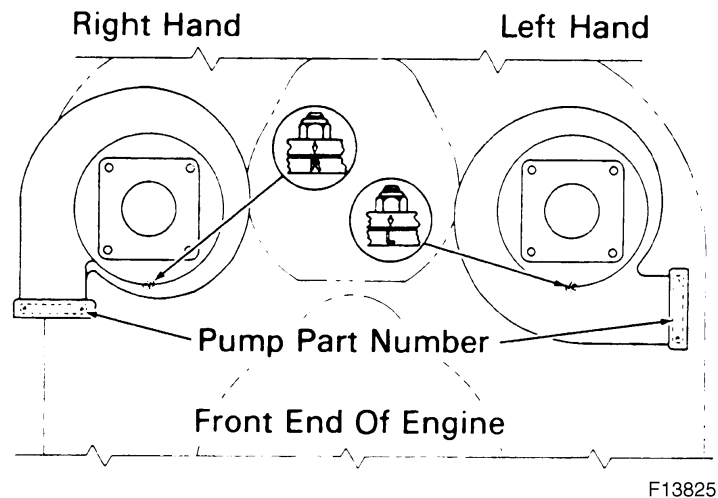

Figure 10-17. Standard Capacity Pump Housing Positioning .
15. On standard capacity pumps, determine whether the pump is to be used on the right or left bank of the engine, since the impeller housing is positioned differently in each case; An arrow is cast at the bottom of the pump shaft housing and the impeller housing has a letter “R” and “L.” For a right bank pump, assemble the impeller housing so that “R” is opposite the arrow on the shaft housing or for a left bank pump, the “L” is opposite the arrow, as shown in Figure 10-17.
1. Standard capacity pumps are installed in the positions shown in Figure 10-17 for the right and/ or left bank.
2. The part number of the pump is located on a plate attached to the pump discharge flange, as shown in Figure 10-17.